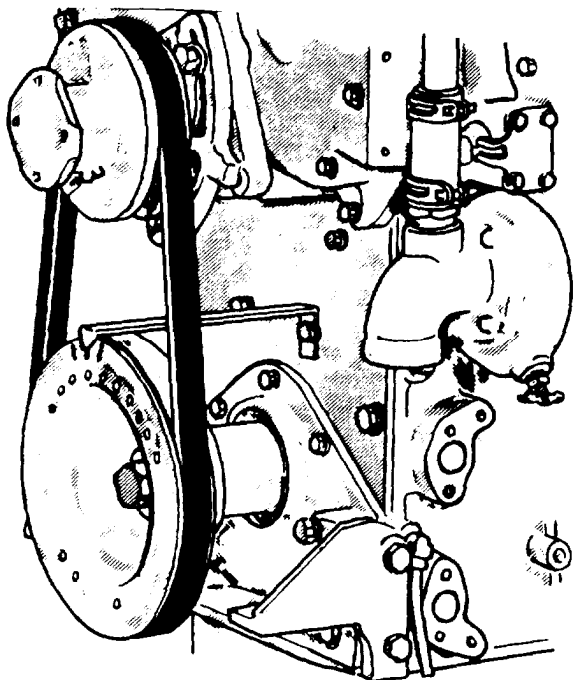

Figure 11B-145. Pointer Installation for Marking Top-Dead Center
8. Attach a suitable pointer to the crankshaft front cover or engine front end plate as shown in Figure 11B-145 on page 11B-95. The pointer should extend over the vibration damper.